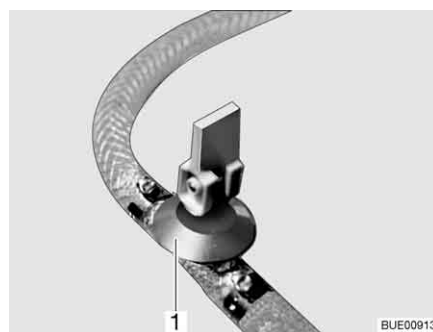
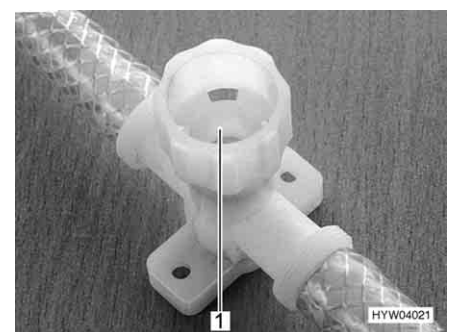

Fig. 236 Drain cock (with rocking lever)
Fig. 237 Drain cock (with twist cap)
- Close all drain cocks. To do this, position the drain cock's rocking lever (Fig. 236,1) horizontally or turn the drain cock's cap (Fig. 237,1) in a clockwise direction.